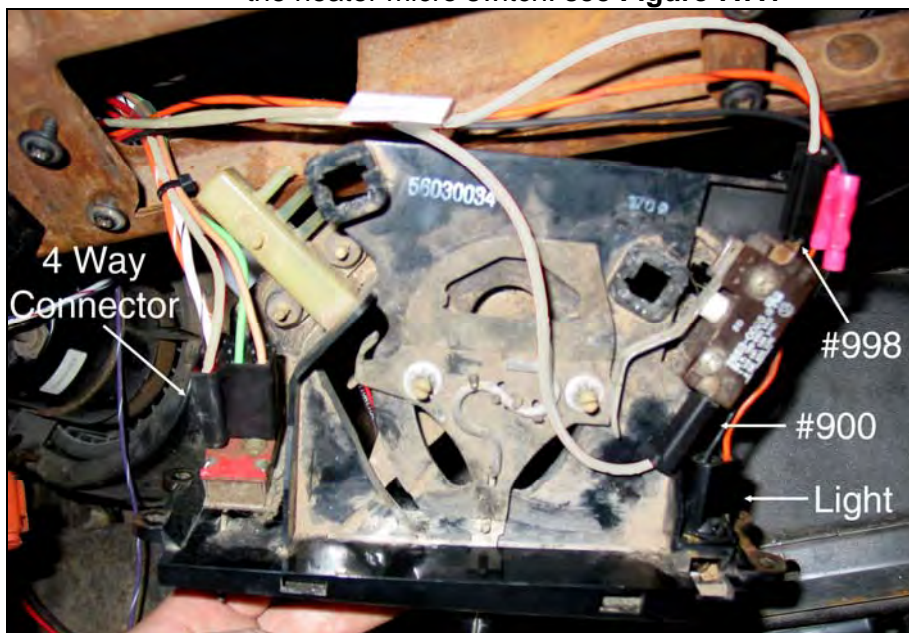

Figure 7.7.1 HVAC Switch
- 7.7.1 Connect the black 4 way connector to the heater switch. see **Figure 7.7.1**
- 7.7.2 Cut the HVAC light from the factory harness. Cut the wires 4" – 6" from the light socket. Insert this "pigtail" in to the hole on the right side of the HVAC switch, see **Figure 7.7.1**. Route the Orange/Black #930 HVAC PANEL LIGHT (B+) & the Black #969 HVAC PANEL LIGHT GROUND to the pigtail. Cut the #930 and #969 wires to length. Strip the two wires of the pigtail and the two wires from the Painless harness. Using the two of the splices provided in the parts kit, splice the #930 & #969 wires to the panel lamp, matching the Painless colors to the factory colors. see **Figure 7.7.2**
- 7.7.3 Connect the White #998 MICRO SWITCH (BACK) wire to the back of the heater micro switch. Connect the White #900 MICRO SWITCH (FRONT) wire to the front of the heater micro switch. see **Figure 7.7.1**